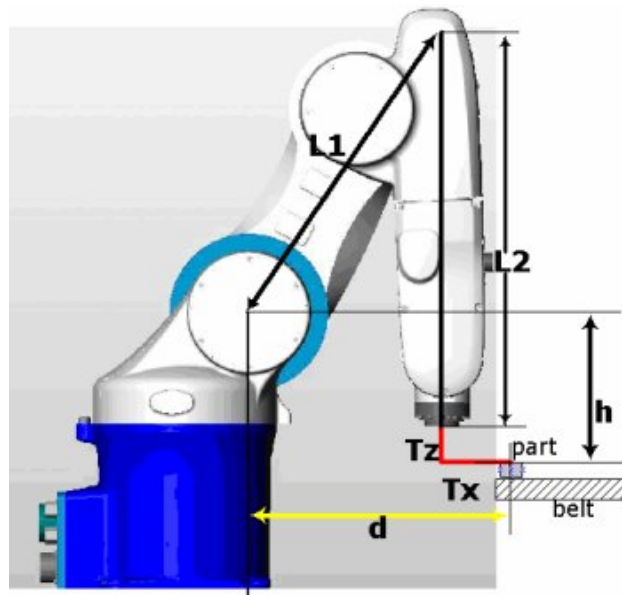

Figure 6. Wrist Singularity During Conveyor Tracking
Figure 6 shows a wrist singularity (described in section 2), which occurs as the robot tracks a part on the conveyor belt. The robot has an end-effector that is offset from the robot flange by a distance of T_z in the tool Z direction, and T_x in the tool X direction.
1. Move the arm so that Joints 4 and 6 are aligned (as shown in Figure 6).